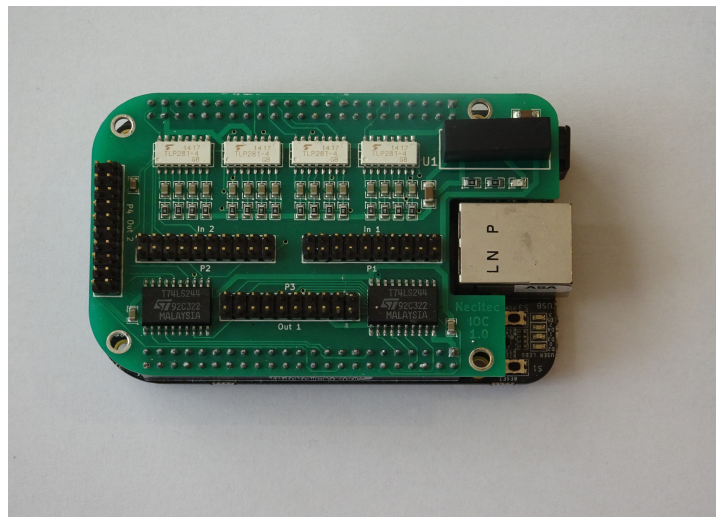

Figure 1: Panther cape inserted in a Beaglebone Black computer board.
2. Insert the Panther cape into the connectors of your Beaglebone Black computer. Be careful to insert the board in the right direction! The Ethernet connector must fit into the space of the cape. See Figure 1 below. All of the pins of the board must fit into the two sockets of the Beaglebone.